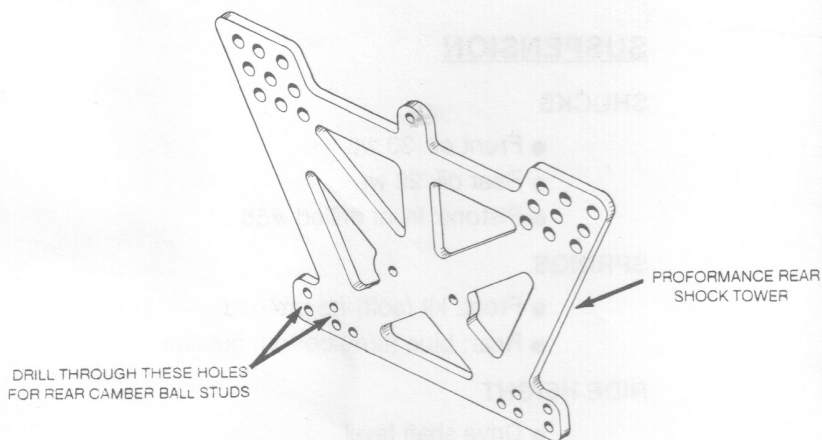

FIG 2
32. Drill new holes in rear bulkhead for camber ball studs. Refer to Jack's Tips and FIG. 2.
36. Replace camber ball studs into hole shown. Refer to Jack's Tips and FIG. 2